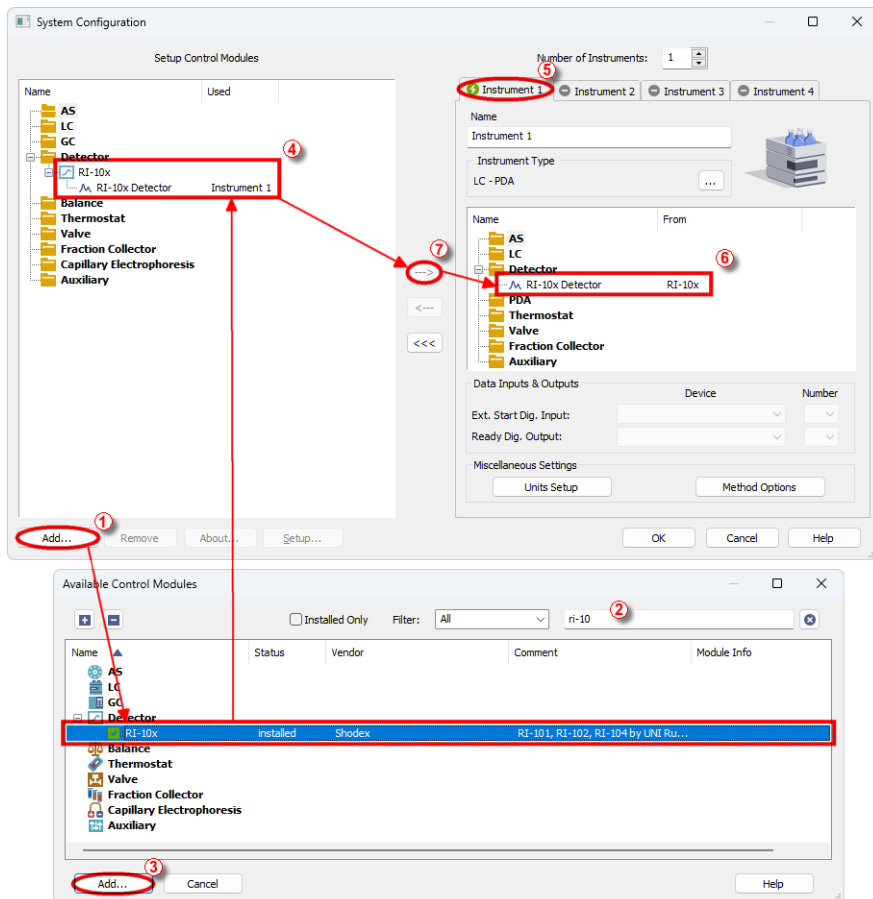

Fig. 3: How to Add Shodex RI-101 module
- Press the *Add* button (1 on Fig. 3 on pg. 4.) to invoke the *Available Control Modules* dialog.
- You can specify the search filter (2) to simplify the finding of the driver.
- Select the correct item and press the *Add* (③ on Fig. 3 on pg. 4.) button. Each device with already created UNI profile should have its own item named accordingly in the *Available Control Modules* dialog.